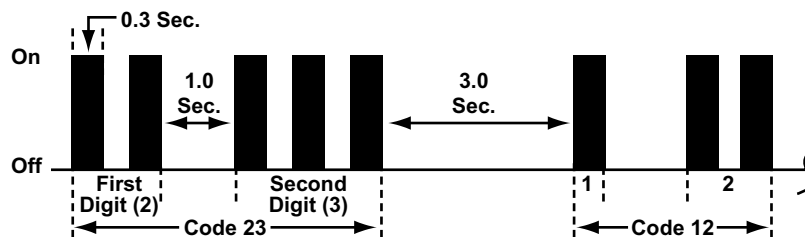

Figure 7-15 Engine Code Type 01
- Type 01 engine codes, see Figure 7-15 and Table 7-1